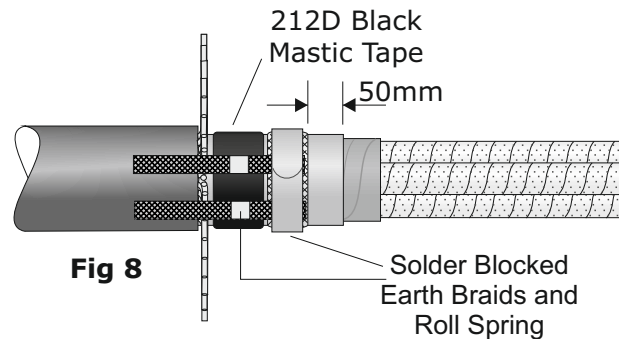

Fig 8
11. Tightly wrap a layer of tinned copper mesh 50mm from the lead cut, and using the constant force roll spring provided, secure the 2 x short earth braids as shown in Fig 8.
12. Apply a turn of 212D Black Tape behind the spring and lay the solder blocked braids upon it. Apply another turn over as shown in Fig 8+9.